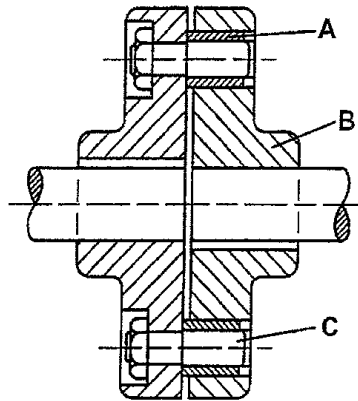

FIGURE 2
- 1.4 Refer to the flexible coupling in FIGURE 2 below and label the different parts (A - C) as indicated. Write the answers below one another in the ANSWER BOOK. (3)